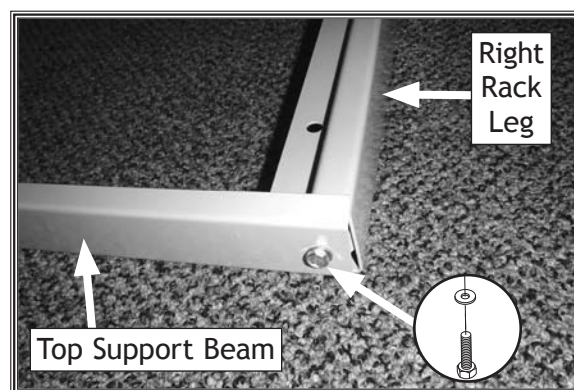

Figure 11. Top support beam attached to right rack leg.
2. Using one M6-1 X 12 hex bolt and 6mm flat washer, attach the top support beam to the top of the right leg (see **Figure 11**). Leave the bolt finger-tight for now—final tightening will be done in a later step.